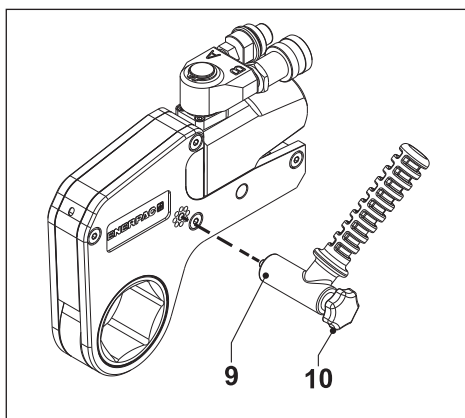

Fig. 3
3.2 To attach the positioning handle (Fig. 3)
- Secure the positioning handle (9) with thumb screw (10). Positioning handle can be installed on either side of wrench.